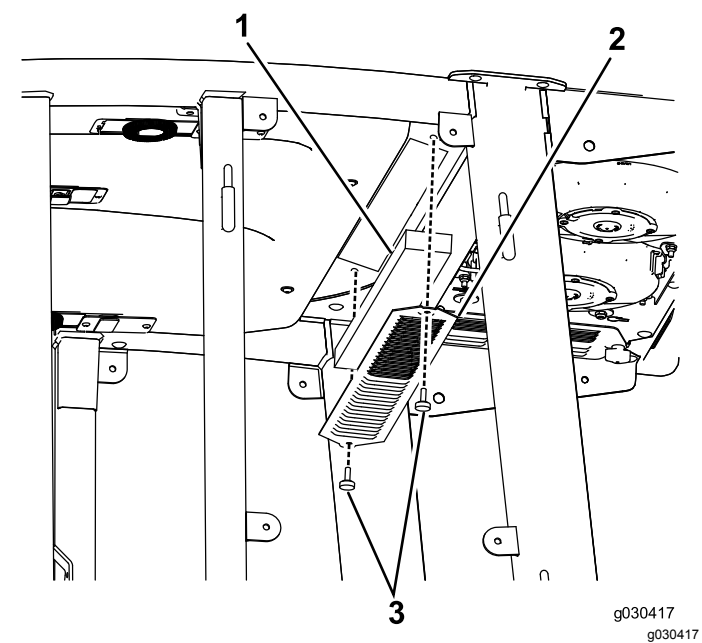

Figure 22
1. Remove the thumb screws and the grates from both the in-cab and rear-cab air filters (Figure 22).